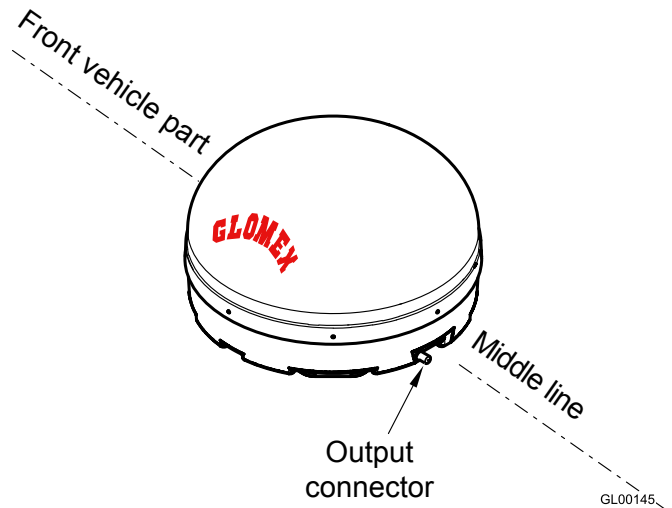

Fig. 8
5. Place the antenna in the appropriate position on the vehicle middle line, respecting the installation direction indicated in **Fig. 8** and apply a good pressure on the radome sides to make the plates correctly adhere to the mounting surface. Wait for the sealant to solidify (time varies according to outer temperature).
For a correct assembly, respect the installation direction indicated in Fig. 8.